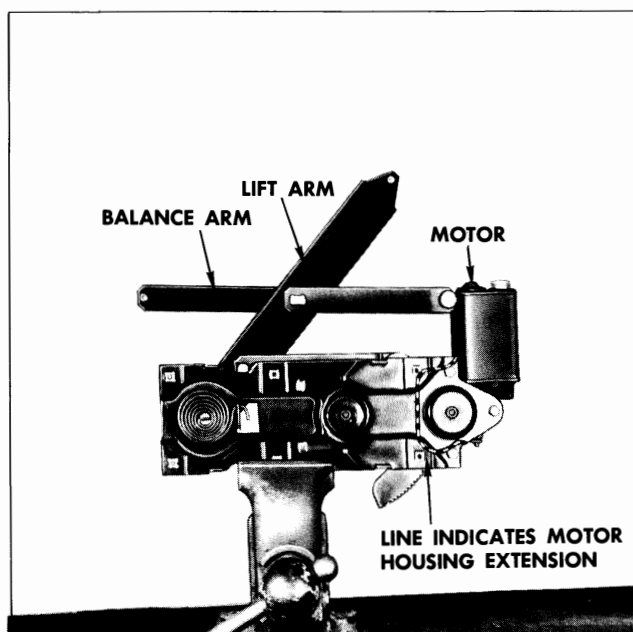

Fig. 12-30 Regulator and Electric Motor Assembly
2. Drill a 1/4" hole through back plate and sector gear at a location dependent upon position of lift arm. Do not drill into motor housing (Fig. 12-30).